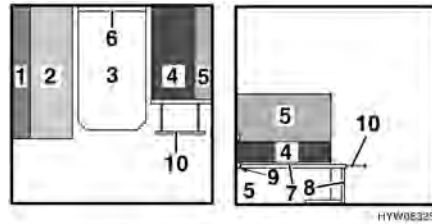

Fig. 33 During conversion
- Insert the table-top (Fig. 33,3) at an angle of 45° degrees into the lower mounting rail (Fig. 33,9) and place on the ground with the table leg (Fig. 33,8) folded.
- Pull out the bedding box extension (Fig. 33,10).